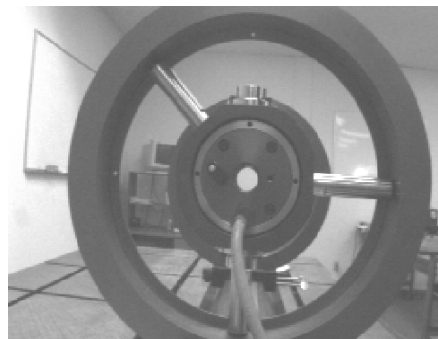

Figure 15 -- Bore Target in the NORMAl position (target cable trailing downward from the bottom of the target).
1. Place the T-218/T-225L Target in the *Near Bore* in the NORMAl position (see Figure 15).
10. Insert the T-218/T-225L back into the *Near Bore* in the NORMAl position (see Figure 15).
1. Take a reading on the near target with the target in the normal position (see Figure 15). Write down the **V** and **H** Readings (NORMal).